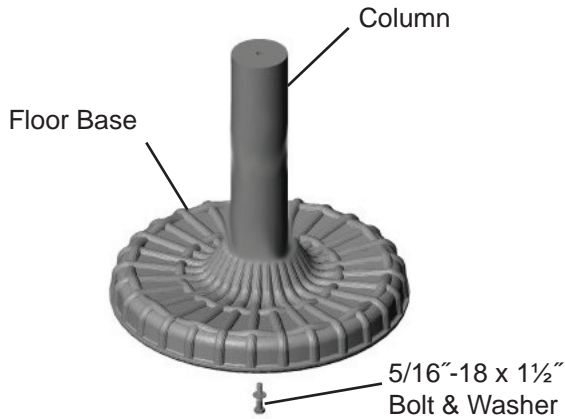

Fig. 18
1. Assemble Column to floor base using 5/16"-18 x 1 1/2" bolt and washer (Fig. 18). Do not overtighten.